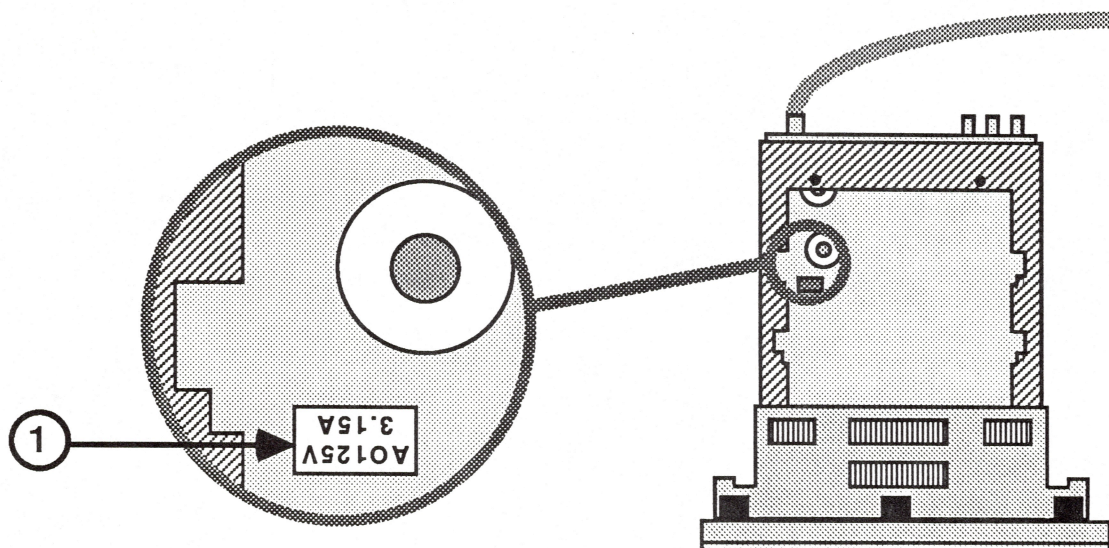

FIGURE 4
7. Use a dark colored felt pen to blacken out the fuse information (Figure 4, #1) on the main logic PCB.